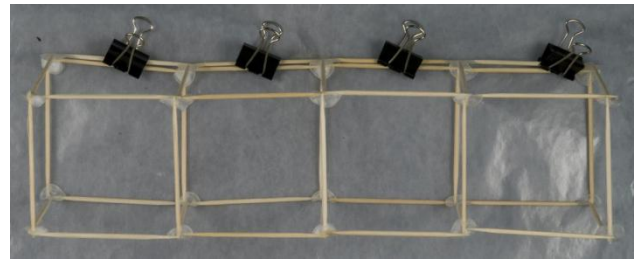

Figure 5. Square toothpick pattern folded into a square tube shape to form the truss structure.
4. Peel the pattern off of the wax paper (some of the glue might not be completely dry - this is ok), and fold it together into a square tube shape, as shown in Figure 5.